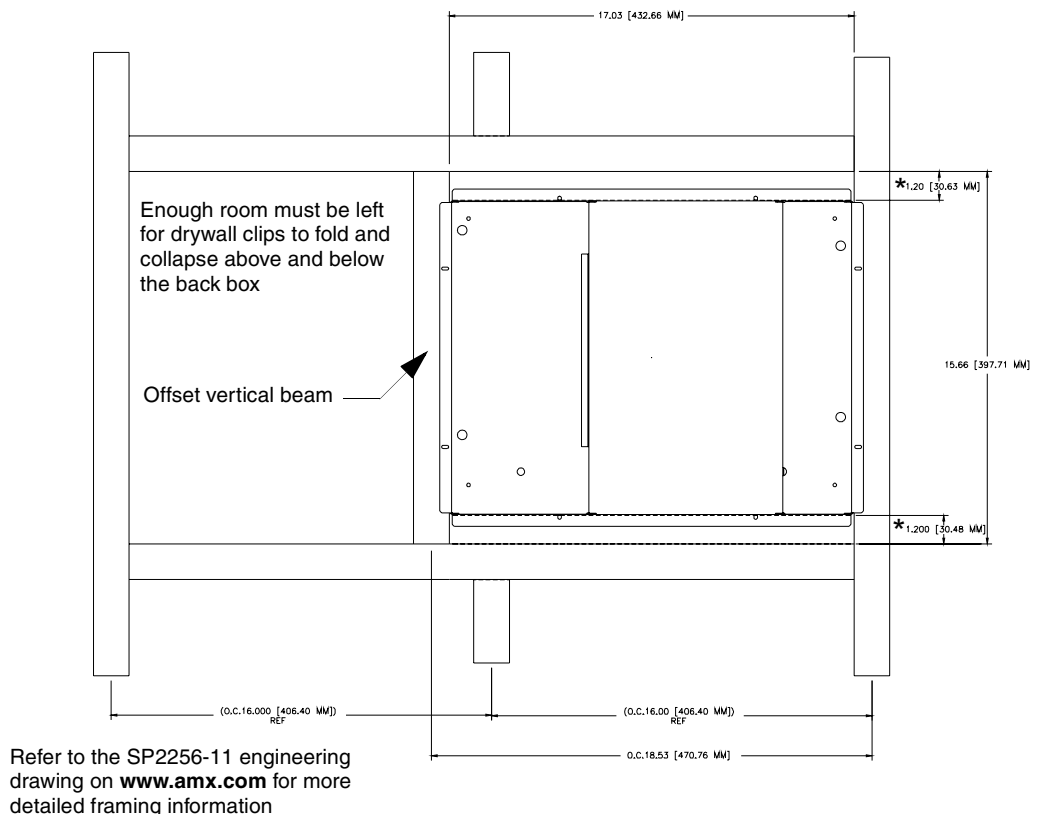

FIG. 58 NXD-1700VG framing installation overview
- **Pre-wall** framing is done prior to the drywall installation (local framing instructions vary based on location and building codes). FIG. 58 shows how to mount and position the main NXD unit into a pre-wall environment (for use with drywall clips).